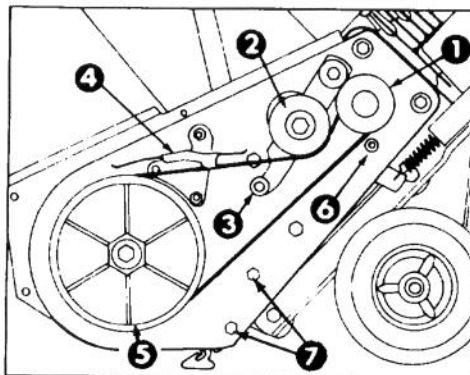

Figure 14
3. REMOVING BELT (Fig. 14) — Push down on idler pulley allowing belt to be removed from rotor pulley, brake arm assembly and engine pulley.
4. INSTALLING BELT (Fig. 14) — Loop belt around engine pulley, under idler pulley, over roller, thru brake assembly and around rotor pulley.